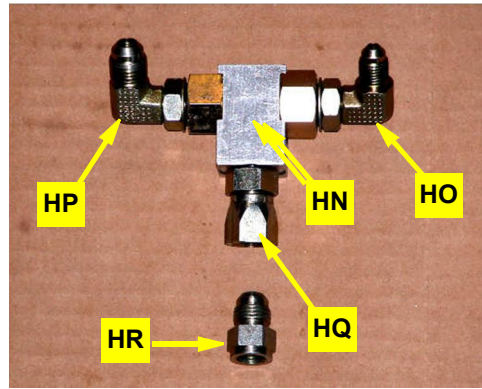

Figure 5a: Prepared load sense shuttle valve
- a. Assemble the load sense shuttle valve **HN** with fittings **HO**, **HQ**, **HR** and **HP** (Figure 5a).